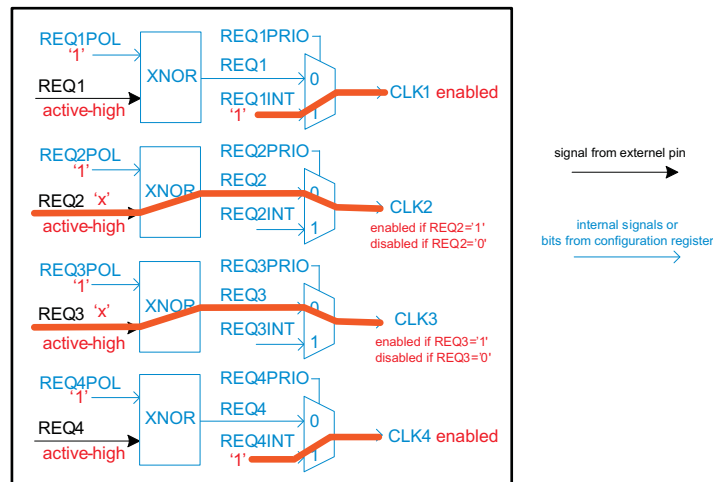

Figure 26. Clock Output Enable Signal
(1) All data is transferred with the MSB first.
(2) A device reset to default condition is initiated by a V_{DD}DIG power-up sequence.
(4) Inactive as long as the REQxPRIO bit is low, external REQx pins are valid (see Figure 26)
(5) Writing data beyond 03h may affect device function.